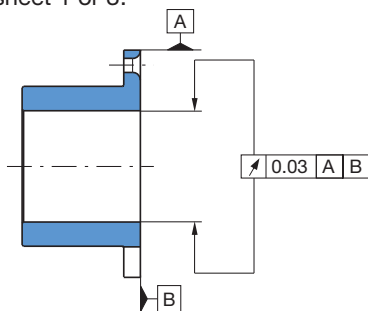

Fig. 114
- Shaft run-out and axial run-out tolerances: 0.03 mm (Fig. 114).